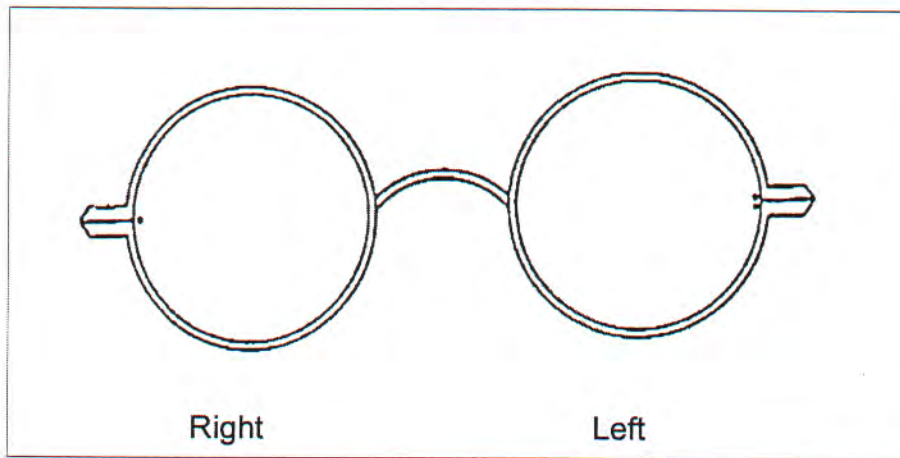

Figure 3. Front view of round lenses illustrating marks (exaggerated) on back surfaces denoting right and left
- (b) on the left lens, two marks placed symmetrically one either side of the joint line (see figure 3).